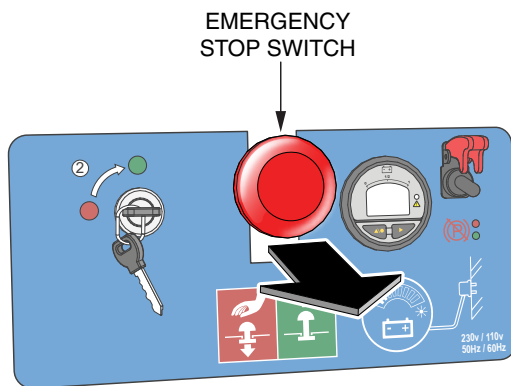

Figure 5. Emergency Stop Switch (Closed)
1. Located on the control panel of the buggy, is the **emergency stop** button (Figure 5). Pull this button outward to start the electric motor.